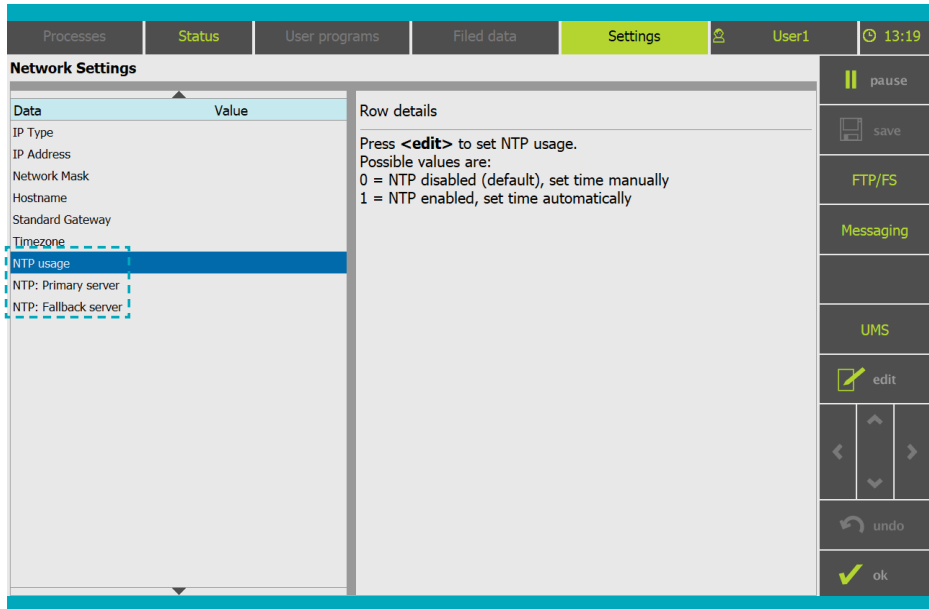

Figure 9.6: NTP setting
1. Go to **<Settings>** ▶ **<User Settings>** ▶ **<Network Settings>** and tap **<run>**. The network configuration appears. Parameters in blue box are relevant for network time synchronization (see Figure 9.6).